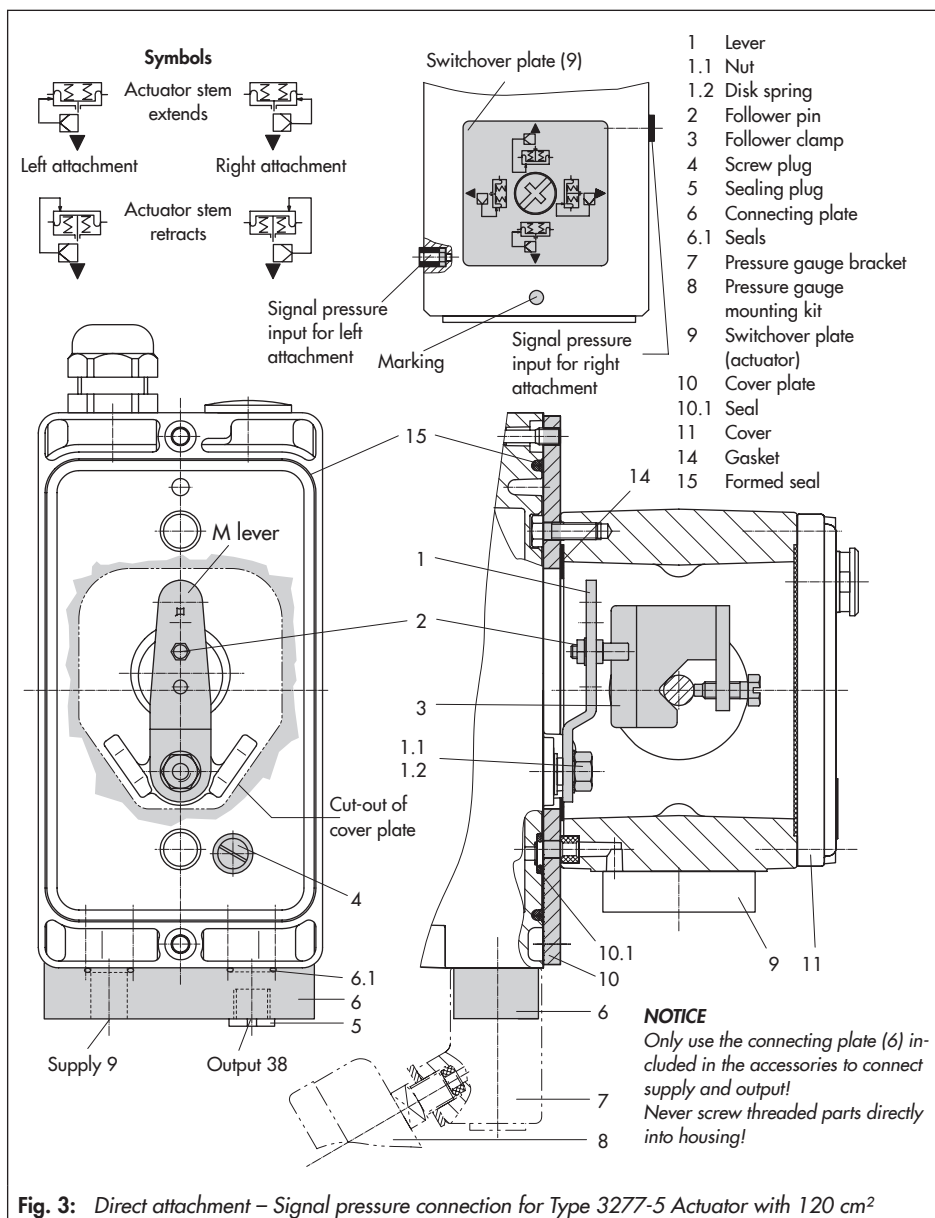

Fig. 3: Direct attachment – Signal pressure connection for Type 3277-5 Actuator with 120 cm²
Actuator with 120 cm² (see Fig. 3)
1. Mount connecting plate (6) or pressure gauge bracket (7) with pressure gauges on the positioner, making sure the two seals are seated properly.
2. Remove screw plug (4) on the back of the positioner and seal the signal pressure output (38) on the connecting plate (6) or on the pressure gauge bracket (7) with the stopper (5) included in the accessories.
3. Place follower clamp (3) on the actuator stem, align it and screw tight so that the mounting screw is located in the groove of the actuator stem.
4. Mount cover plate (10) with narrow side of the cut-out (Fig. 3, on the left) pointing towards the signal pressure connection.